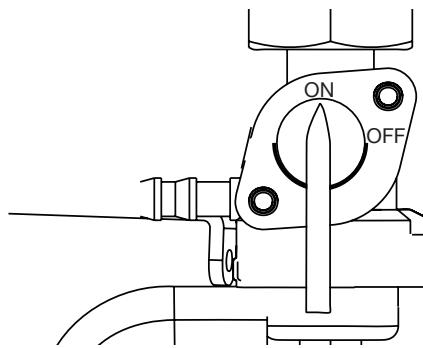

Figure 13 - Fuel Shut Off - ON
4. Move the fuel shutoff valve to the ON position (see Figure 13 below).